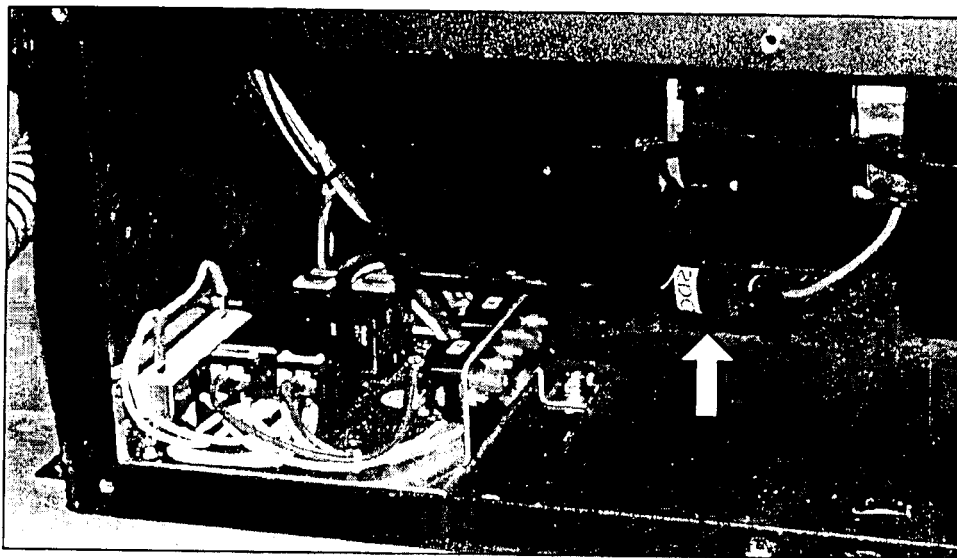

Figure 12.
16. Connect lead wire 1 to the harness plug to the rear, upper blower motor. Connect lead wire 2 to the harness plug to the front, lower blower motor (Figure 12).